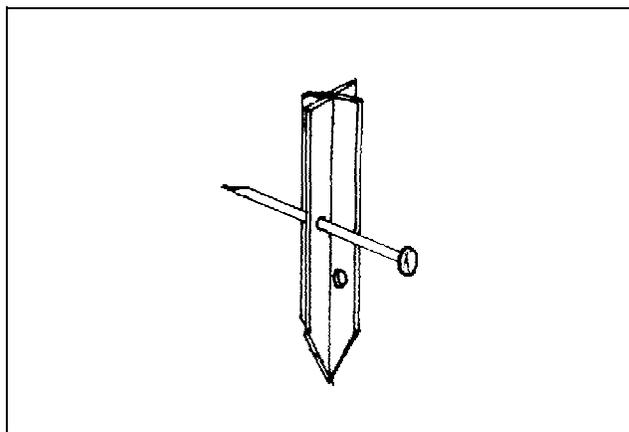

Figure 2. Cut away view of lamp post security
- PV lights are very easy to install. They are also very easy to remove. If you are concerned about theft, the PV lights should be installed more securely. One suggestion is to drill two or three holes through the plastic stake near the pointed end (Figure 2). These holes should be large enough for a 3-inch galvanized nail. Fill a plastic plant pot, at least 6 inches in diameter, with cement and stand the plastic stake with the nails